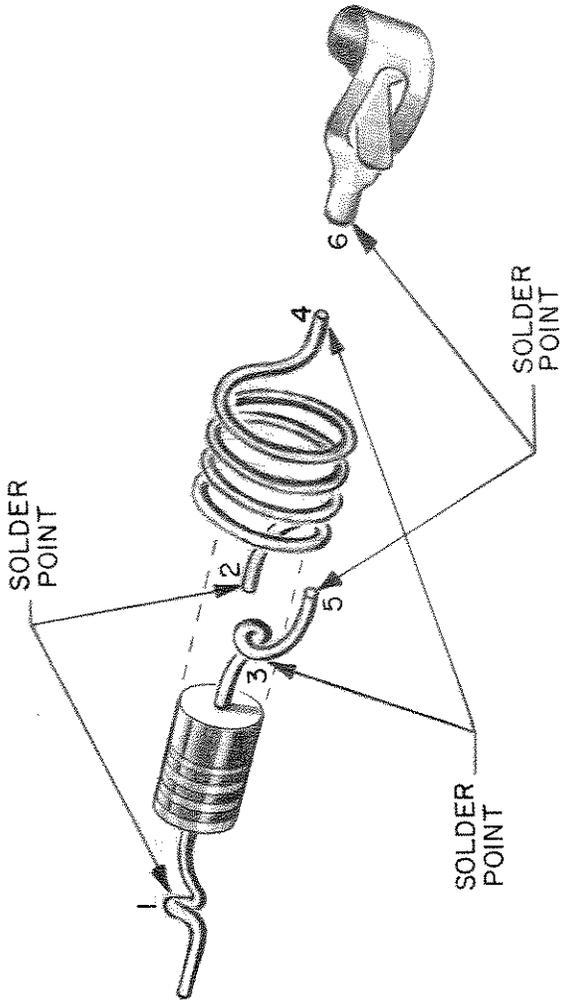

Figure 21. Parasitic Choke Assembly.
- (✓) Connect the white wire coming up through hole No. 51 to the bottom lug of L13 (DS).
- (✓) Connect the other lead of C18 to the solder lug on the top of L13 (DS).
- (✓) Prepare the parasitic choke assembly as shown in Figure 21 and Pictorial 3.